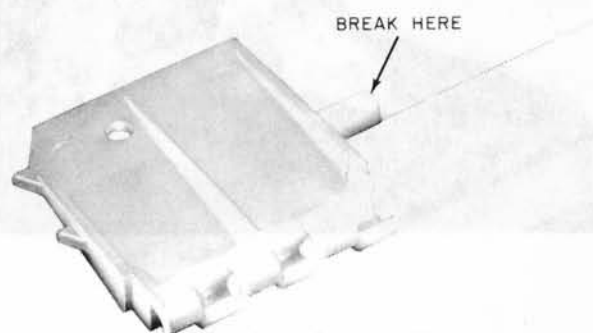

Fig. 63—840360572 Replaceable Coin Vane
(1) Break the handle off of the new coin hopper vane carefully. (The handle serves as a new hinge pin as shown in Fig. 63.)